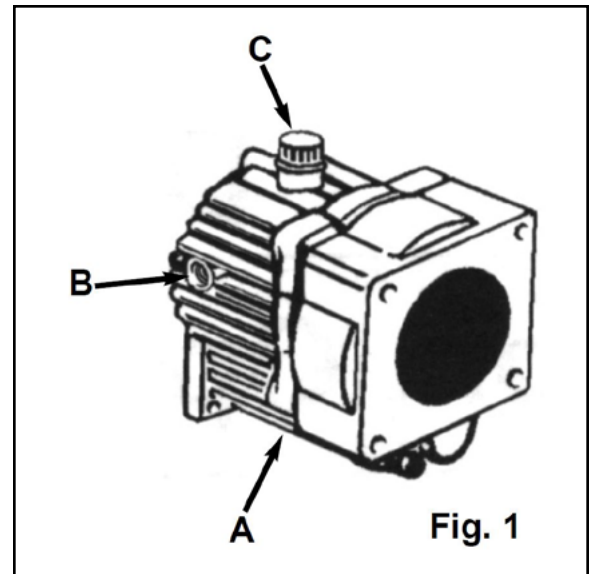

Fig. 1
**NOTE:** Your sprayer and components may differ from the one shown in Fig. 1. This will depend on what model you order.
1. When changing oil in the Reducer, remove the drain plug (A) located on the bottom of the Reducer. (refer to Fig. 1) After the oil has completely drained, replace drain plug(A) and tighten. To fill, remove side level plug (B) and vent plug (C). (refer to Fig. 1) Fill until the gear lube is no higher than the mark on the dipstick. After proper oil level has been obtained replace plugs.